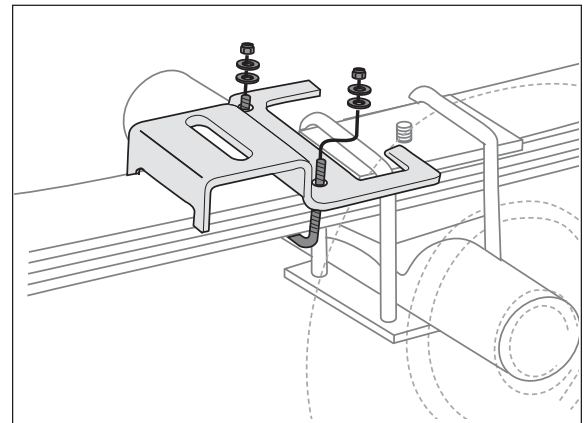

Figure 7
4. For 4WD models: The lower bracket will set over the U-bolts (Figure 7). The adapter bracket is not required on the 4WD models. Loosely attach the lower bracket to the bottom of the sleeve using 1/2" HHCS bolt and 1/2" flat washer (Figure 1). Set the assembly on the leaf spring behind the axle. Secure to the leaf springs using the provided U-bolts, flat washers and lock nuts. Torque to 16 ft-lbs.